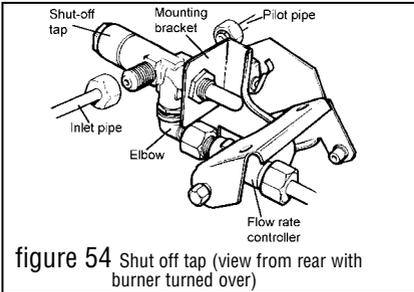

figure 54 Shut off tap (view from rear with burner turned over)
- 15.10 TO REMOVE THE SHUT-OFF TAP** (See figure 54)